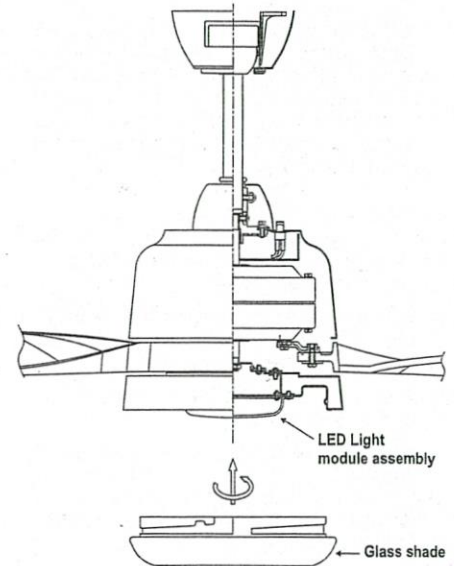

Figure 16
Step 1. Raise glass shade up against the LED Light module assembly and secure it to fan by turning glass clockwise until snug. Do not overtighten. (Fig. 16)